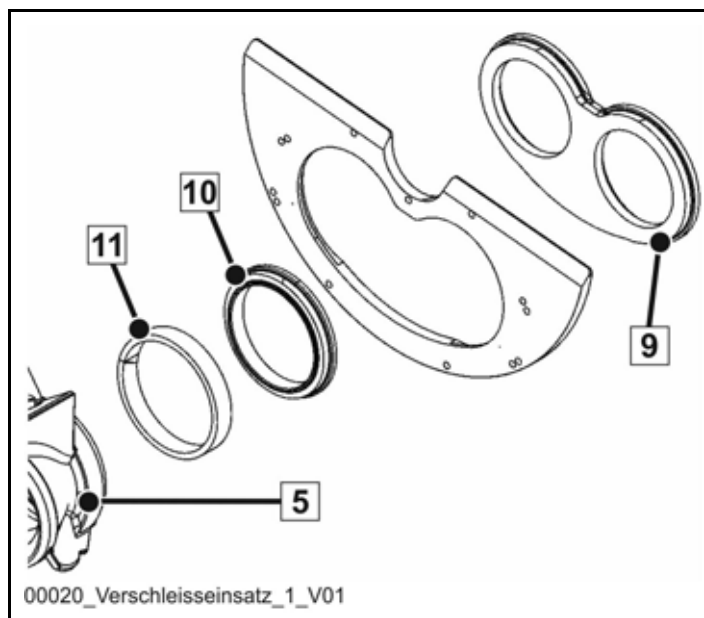
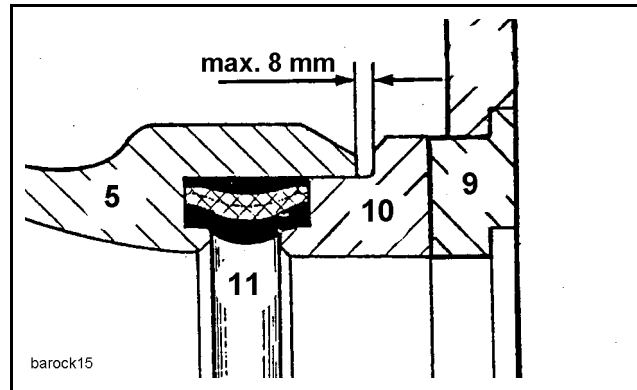

Fig. 345
Fig. 346
- Check the distance between the cutting ring (10) and the swivel head (rock) (5) (**Fig. 345**) and (**Fig. 346**) after each rotation.
- When replacing the cutting ring, check the condition of the wearing insert (9) and pressure spring (11) (**Fig. 346**).